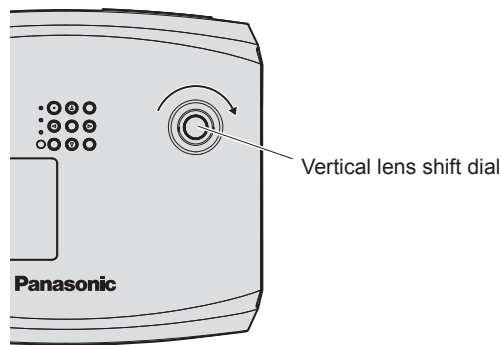

Fig. 2
3) **Adjust the vertical shift. (Fig. 2)**